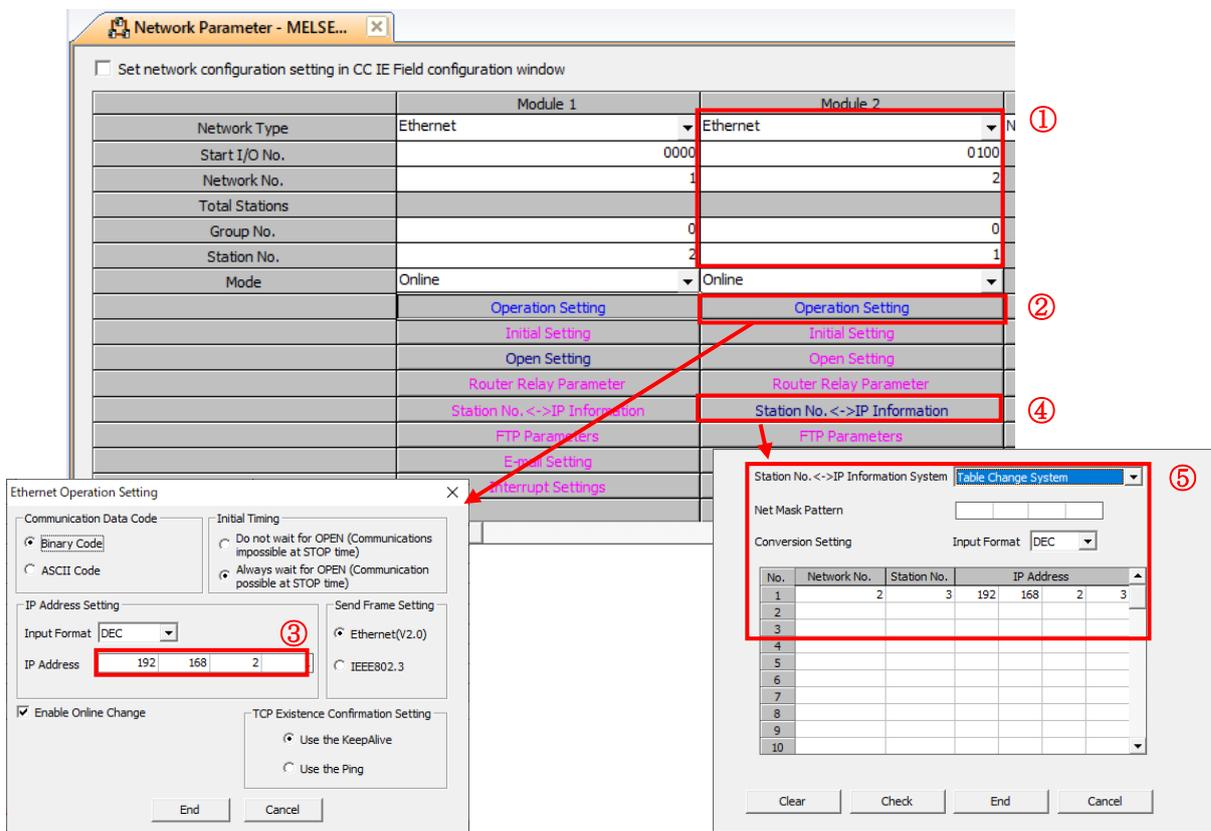

Figure 4-4 Extended Ethernet unit 2 parameter setting
① to ⑤ in Figure 4-4 show the setting steps of Expansion Ethernet Unit 2. The procedure for displaying the setting screen is the same as step ① of 4.1.1.2.4.1.1.2
- ① Select "Network type: Ethernet" in Unit 2 settings, and enter the network number and station number.
- ② Opens the Operation Setting.
- ③ Enter the IP address.
- ④ Open the Station No. <->IP Information.
- ⑤ Select " Station No. <->IP Information System: Table Change System" and enter the Network No. and Station No. and IP address of the extended Ethernet unit of the subsidiary PLC.